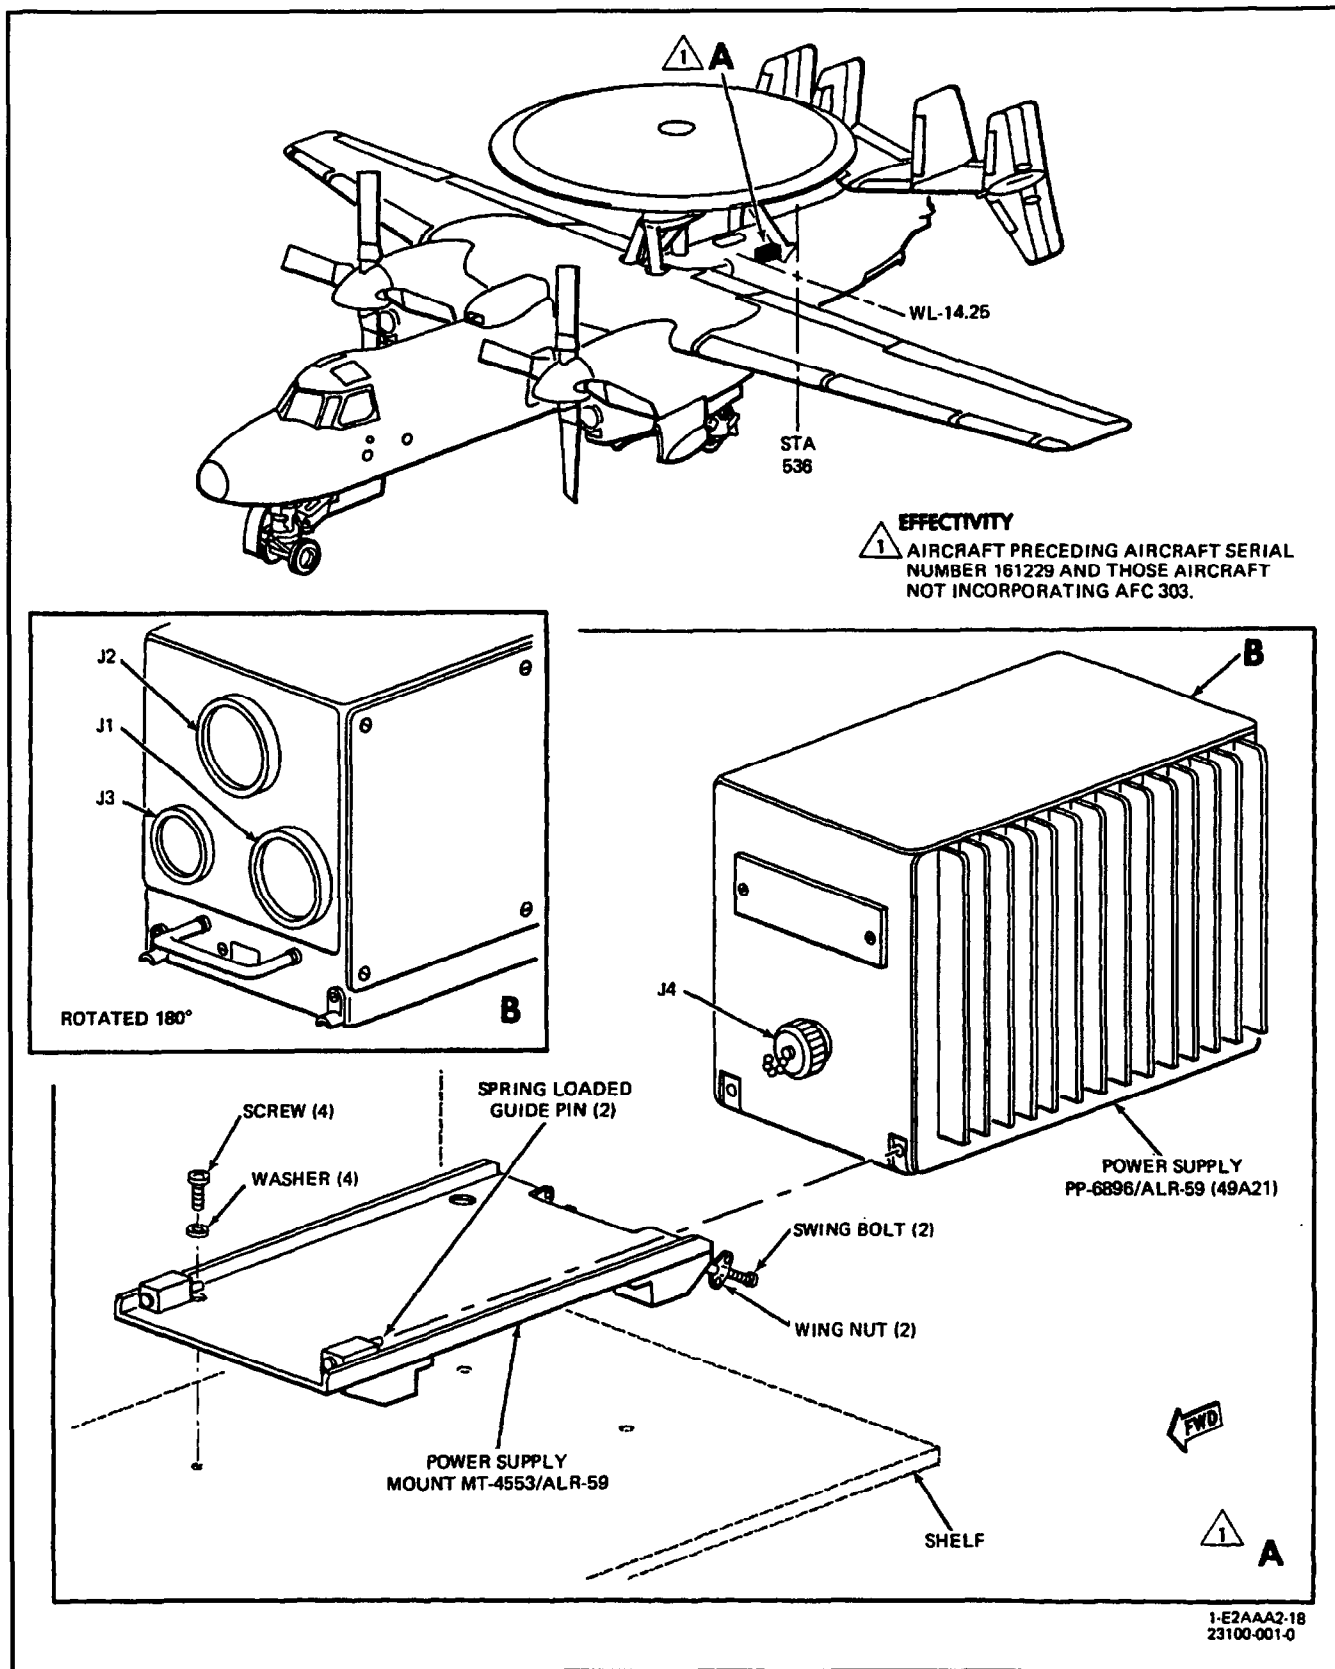

Figure 1. Removal and Installation of Power Supply PP-6896/ALR-59 (49A21) and Power Supply Mount MT-4553/ALR-59
- 7. **REMOVAL.** (See figure 1.)
- 8. **INSTALLATION.** (See figure 1.)